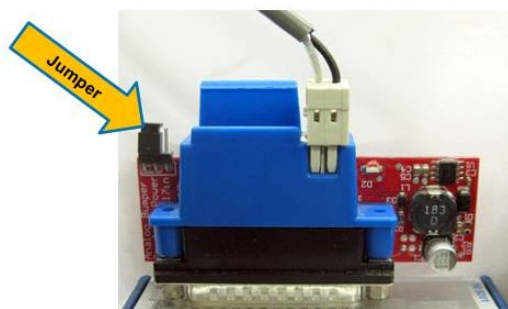

Figure 4-10: Jumper for Battery Voltage Reading
- C. A jumper must be installed in the "Power" position (two outer pins) on the Analog Breakout Board (see Figure 4-10).